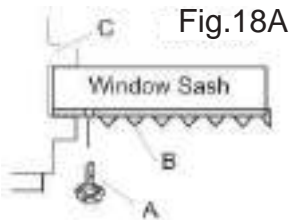

Fig.18A
2. Use a 1/8" drill bit to drill a starter hole through the hole in the top leg of each window filler panel and into the window sash (Fig. 18A and Fig. 18B). Connect with one 3/4" (or 1/2") long hex head screw.